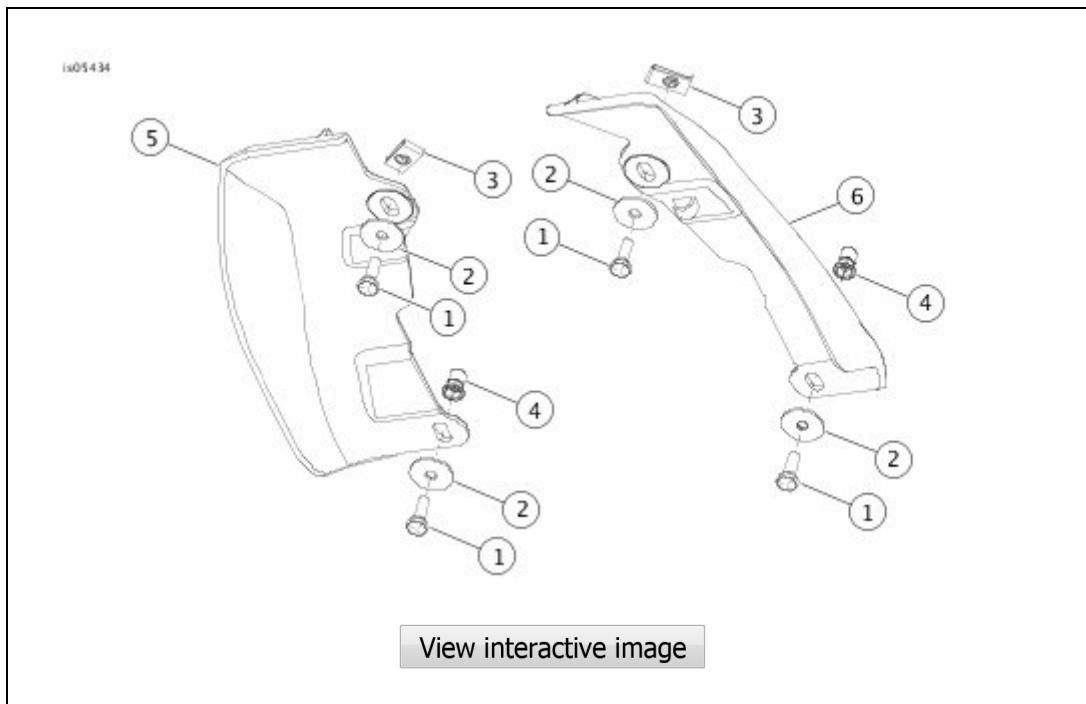

Figure 3. Service Parts: Mid-Frame Air Deflectors
See **Figure 3** and **Table 1**.
2. See **Figure 3** and **Table 1**. Install special nuts:
- a. Install washer (2) to screw (1). Insert screw fully into the special nut (4).
3. See **Figure 3**. Clip the speed nuts (3) through the large hole with the flat side on the underside of the frame plate. Align the threaded holes to the small mounting holes in the plate.